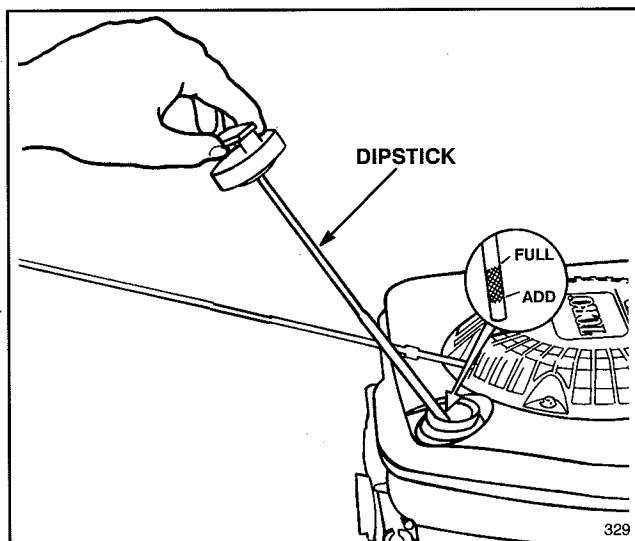

Figure 4
Before each use, ensure oil level is between FULL and ADD marks on dipstick (Fig. 4). Add oil if level is low.
1. Position mower on level surface and clean around oil dipstick (Fig. 4).
3. Wipe dipstick and insert it into filler neck. Rotate cap clockwise 1/4 turn. Then remove dipstick and check level of oil on side of dipstick with FULL and ADD marks (Fig. 4). If level is low, add only enough oil to raise level to FULL mark on dipstick. **DO NOT FILL ABOVE FULL MARK BECAUSE ENGINE COULD BE DAMAGED WHEN STARTED. POUR OIL SLOWLY.**